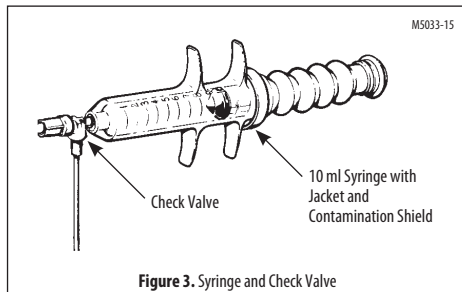

Figure 3. Syringe and Check Valve
1. Connect the 10 ml syringe to the flow-through/check valve (Figure 3).